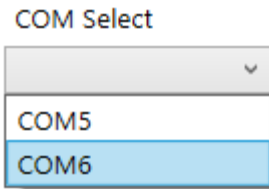

Figure 4.6. COM Select Drop-down Options
- COM Select** shows up in the GUI after selecting **Serial** for **Interface Select**. Figure 4.6 shows an example of the **COM Select** options. Select the COM port with a higher number in the options.